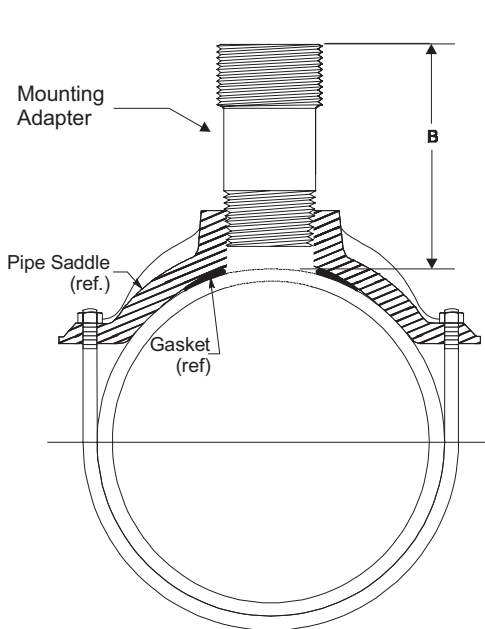

Figure 5: Dimension "B"
- b. Next, measure from the outside wall of the pipe to the top of the installed mounting adapter, this is dimension "B" in Figure 5.
- b. Next, measure from the outside wall of the pipe to the top of the installed mounting adapter, this is dimension "B" in Figure 5 on page 6.